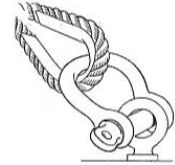

Fig.5
More than one eye bolt diameter of threads, only (1) nut required. (see Fig. 5)